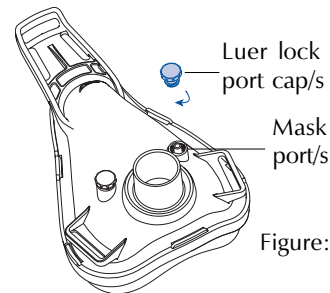

Figure: 8
- 1** Twist the luer lock port caps onto the mask ports (Fig. 8).